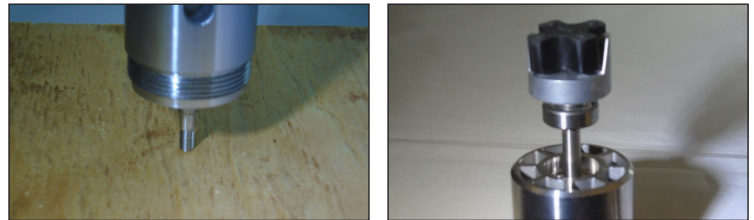

Figure 4 A & B
- Shaft Removal** - To remove the shaft (item 4), tap the bottom of the shaft on a piece of wood or plastic and push the shaft up and out of the head (item 6). See Figure 4 A & B. Grab the half coupling or bearing and pull the shaft assembly straight out of the head. Note: Take care to not bend the shaft.